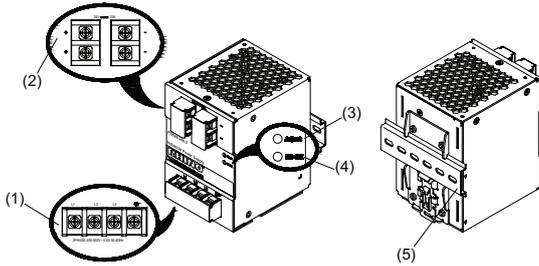
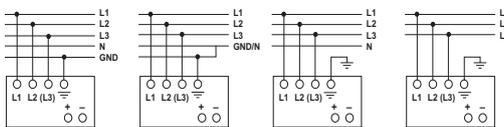

Figure 1
Figure 5
2. Device description (Fig. 1)
5.1. Input connection (Fig. 1, Fig. 5)
Use L1, L2, L3 and GND connections of input terminal connector (see Fig. 5) to establish the 3 x 400-500 VAC connection. Figure 5 shows the connection to the various network types. In the event of a phase failure, unrestricted operation is possible with nominal capacity. The device has an internal fuse. 3 x 16 A circuit breakers are recommended as backup.
5.2. Output connection (Fig. 1 (2))
The green LED DC OK displays correct function of the output (Fig. 1 (4)).